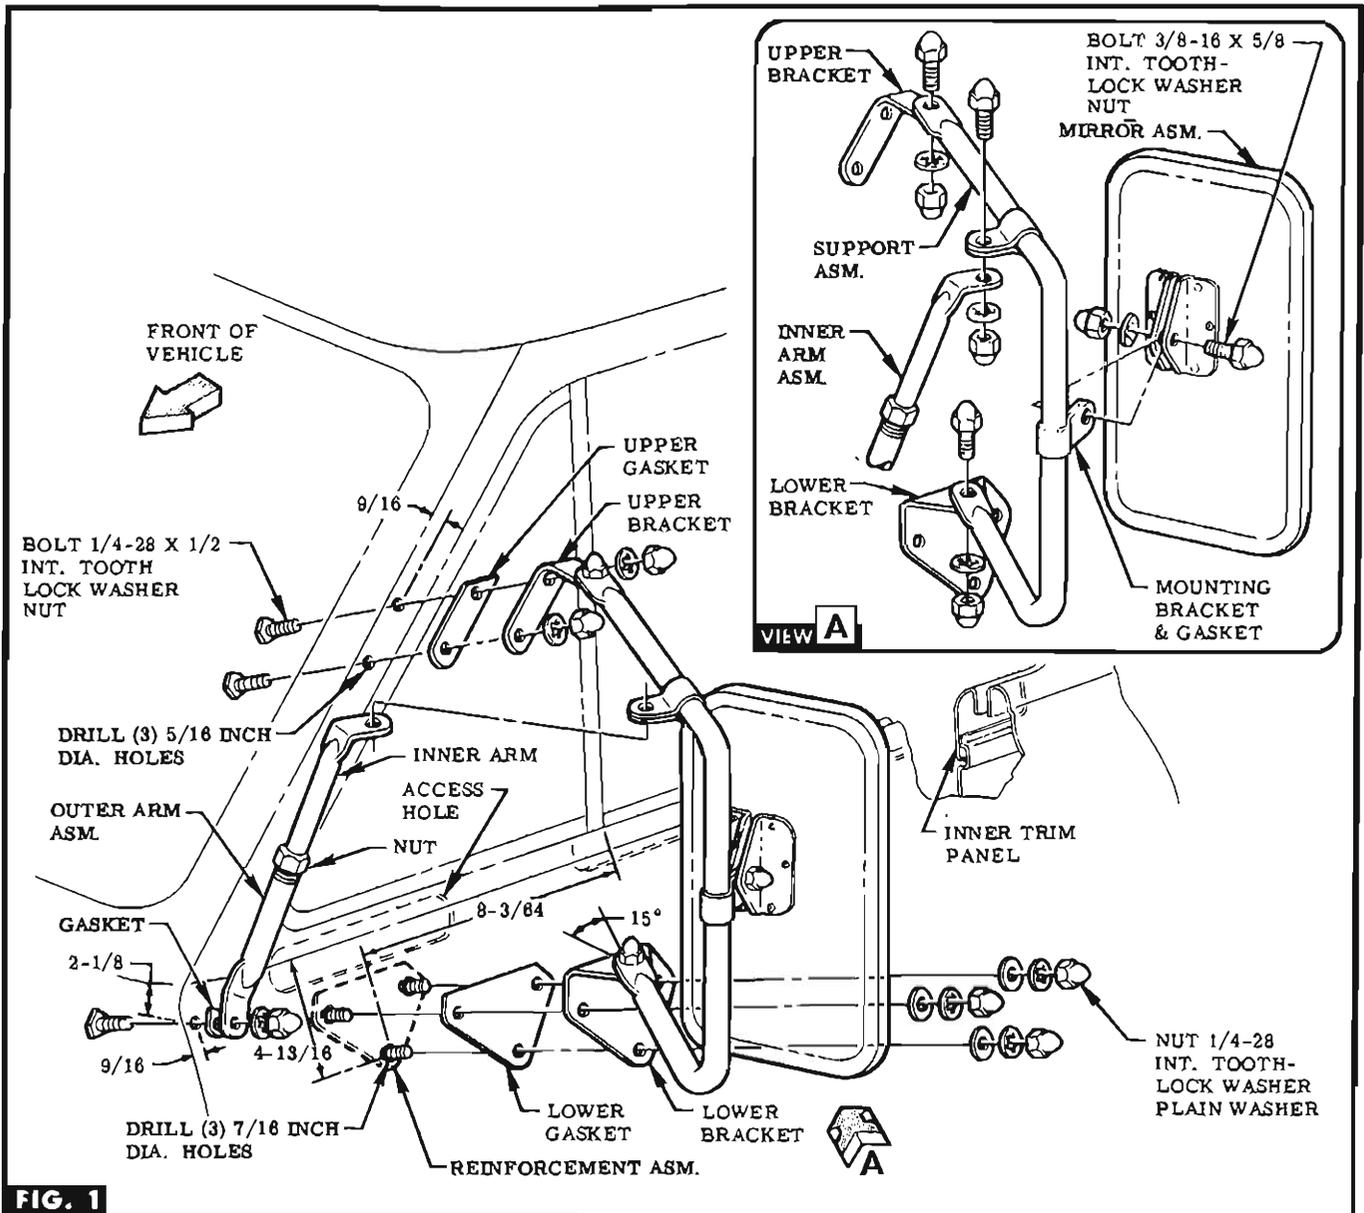

FIG. 1
NOTE L.H. & R.H. upper brackets are provided. Be sure bracket slants forward on L.H. side. SEE FIG. 1.
STEP 3 USING LOWER BRACKET AS TEMPLATE, LOCATE, CENTERPUNCH & DRILL HOLES IN DOOR. SEE FIG. 1.